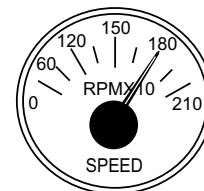

Figure 38. Engine Tachometer Gauge
14. The **tachometer gauge** (Figure 38) will indicate the speed of the engine when the generator is operating. Under normal operating conditions this speed is approximately 1800 RPM's.